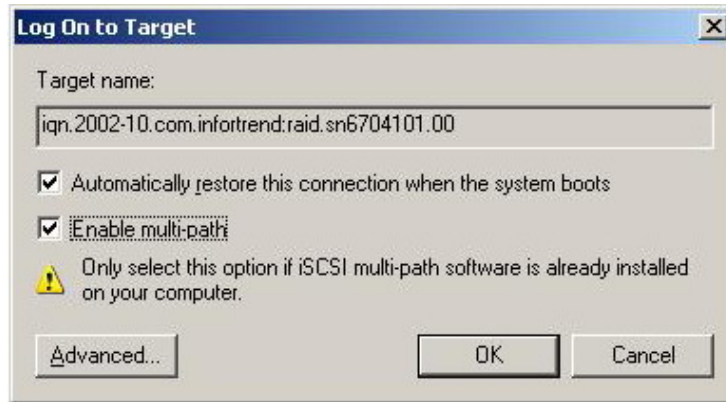

Figure A-5: Log On to Target Window
-  **Step 6.** The **Log On to Target** window should be opened as seen in **Figure A-5**. Click on both check boxes to enable the connections to be restored automatically when the system boots and the multi-path connections are complete. Click **OK** to exit this window.